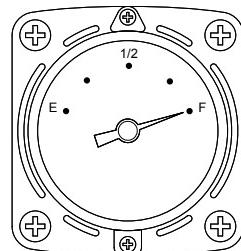

Figure 14. Full Fuel Tank
3. Monitor the fuel gauge while filling fuel tank. Stop filling when the fuel gauge indicates full (Figure 14). DO NOT wait for fuel to rise in filler neck.